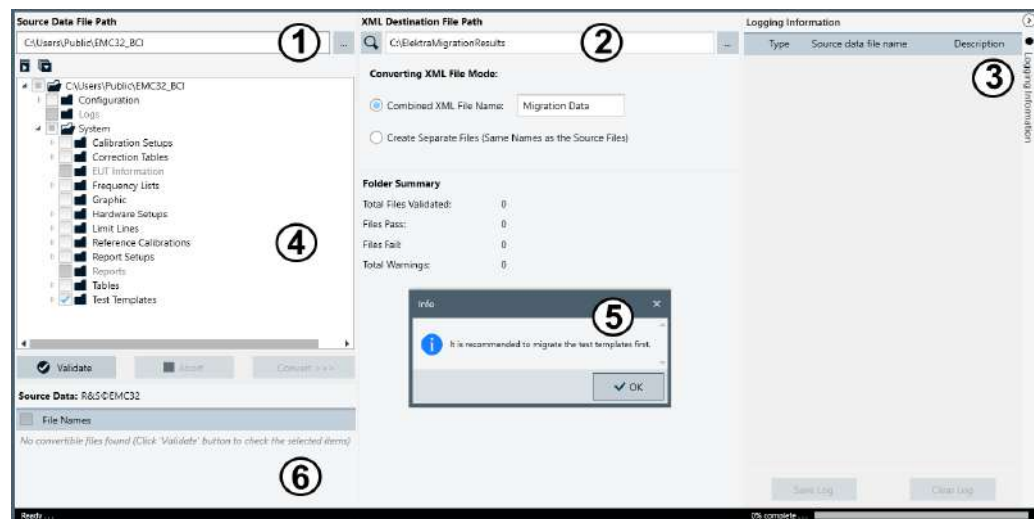

Figure 2-7: Start window of the XML converter
With your source data selection, R&S ELEKTRA prepares the appropriate settings. It displays the following dialog window (Figure 2-7) and a pop-up message box (5). You can start using the tool after acknowledging the pop-up message.